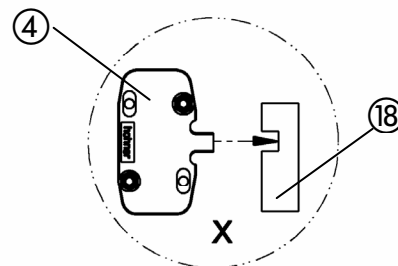

Fig. 19b
When installing the stitching head with centering device (- Fig. 19b -) make sure that the carrier ④ is correctly placed in the groove of the drive beam ⑱ (view "X").